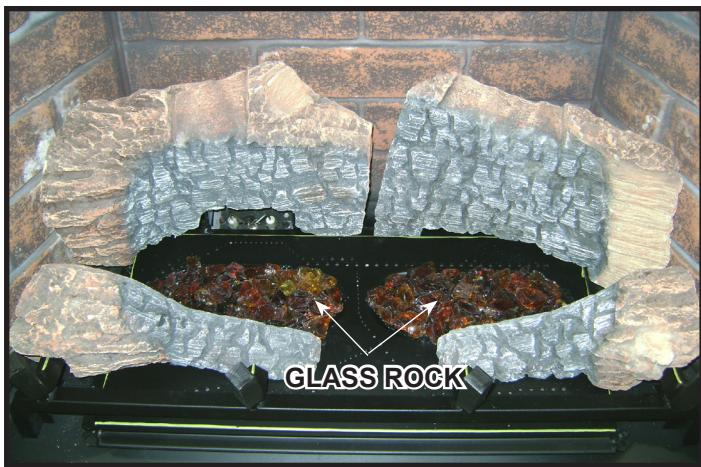

Figure 7. Glass Rock in Place
**GLASS ROCK (2201-853):** Once Log #3 and Log #4 are installed, fill each light tray with the glass rock. See Figure 7.